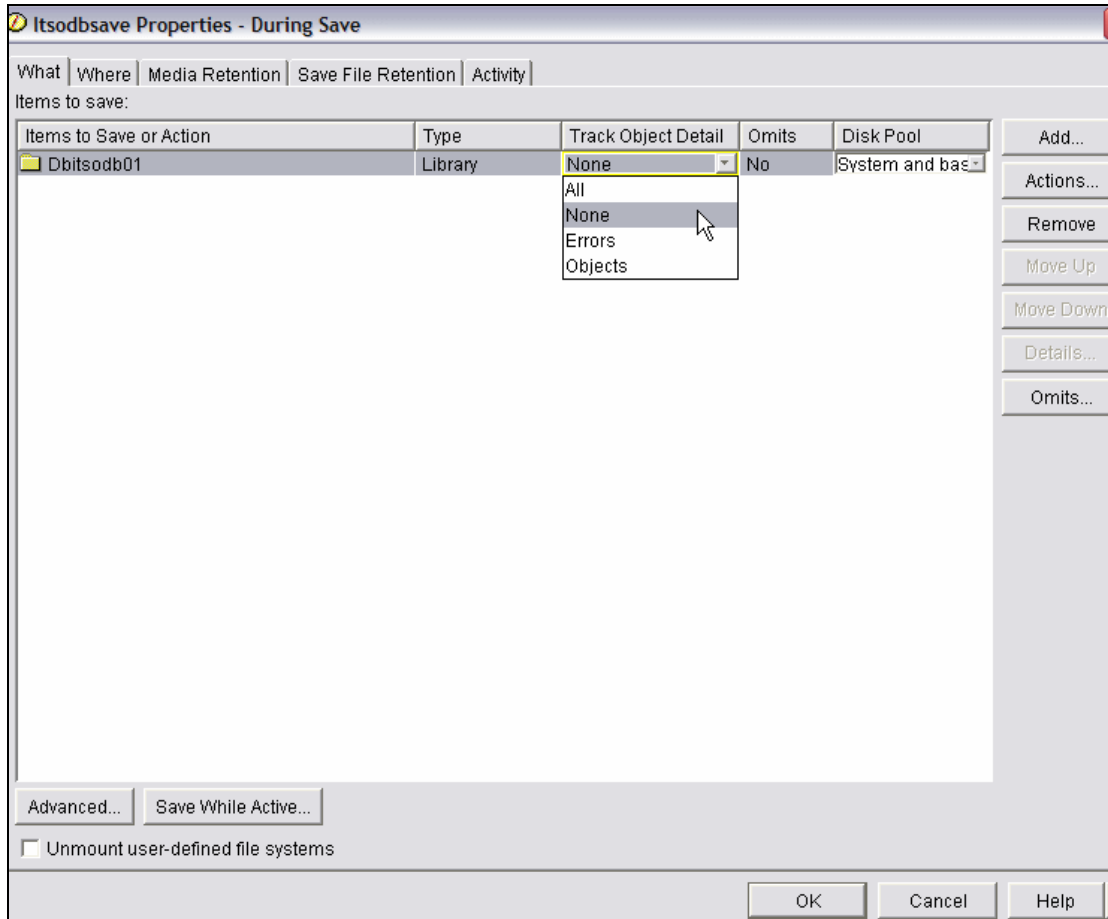

Figure 7-39 What to save
When you select **During** in the Properties window, a window with five tabs appears, as shown in Figure 7-39 on page 371. We briefly explain these tabs here:
1. Click the **What** tab. Under the column Track Object Detail, select **Objects**, as shown in Figure 7-39.